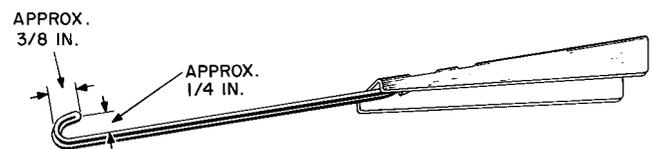
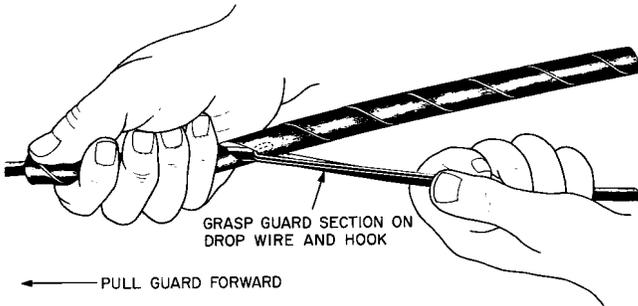
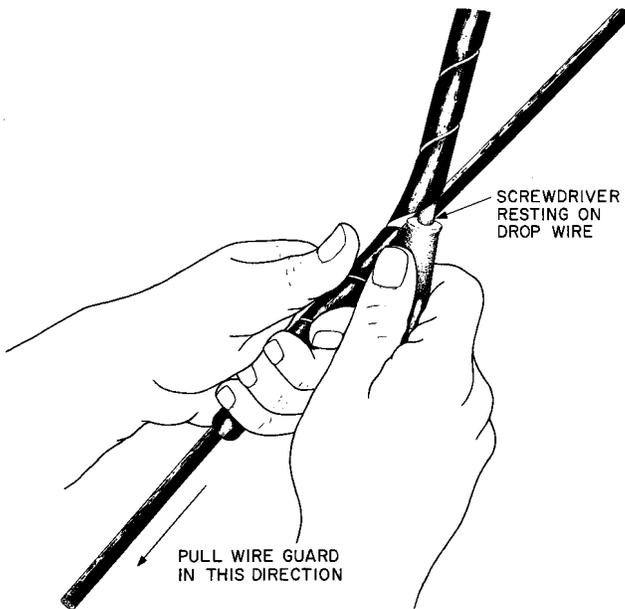

Fig. 1—Hook Fashioned From Drop Wire Clamp
Fig. 2—Placing P Wire Guard Hook Method
Fig. 3—Placing P Wire Guard Screwdriver Method
4.05 *P Wire* guards can be placed on drop wire by means of a hook tool fashioned from the tail wire of a drop wire clamp, or by using a screwdriver as a guide. (See Fig. 1, Fig. 2, and Fig. 3.)
already on the wire and pull guard away from the hook as shown in Fig. 2.
(3) When using screwdriver: After inserting the screwdriver blade into the part of the guard not on the wire and holding it in position shown in Fig. 3, grip the part of the guard already on the wire and pull guard away from the screwdriver.